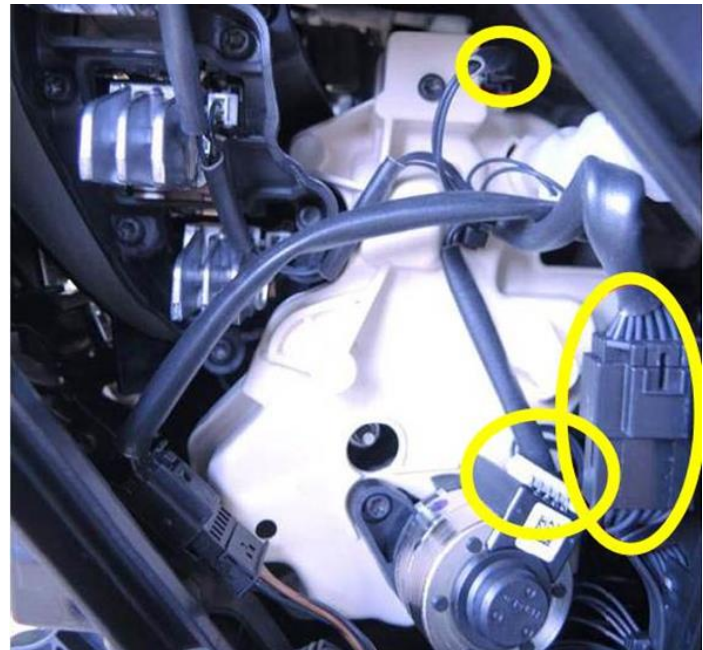

Figure 2. Check these connectors on vehicles with PR codes 8EX and 8EY.
- If the vehicle is equipped with one of the following PR codes, check the connectors shown at right (Figure 2):